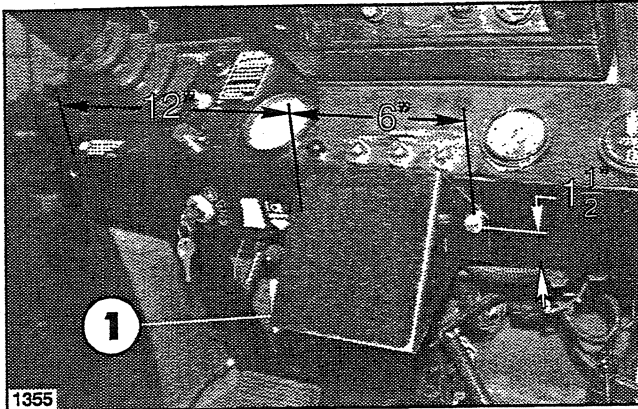

FIG. 4
1. Locate, mark and drill (2) $1\frac{1}{32}$ " diameter holes in Dash Panel. See FIG. 4. Locate the holes $1\frac{1}{2}$ " up from bottom of Dash Panel and 12" from L.H. edge of Dash Panel to the L.H. hole. Locate the R.H. hole 18" from L.H. edge of Dash Panel.